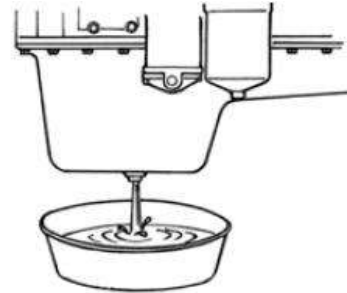

Fig 3-10 Drain the Oil
4.2 Warm up the engine until the oil temperature reaches 50 -60°C. Unscrew the oil drain plug to drain the oil (see Fig3-10). Add cleaned diesel oil to clean the oil sump, and then drain them. Refill new oil after tightening the screws. Fill the new lubrication.